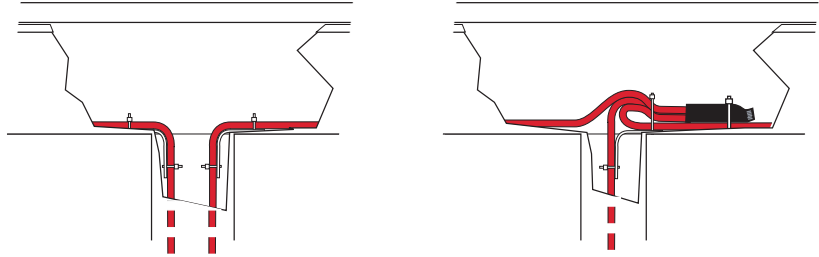
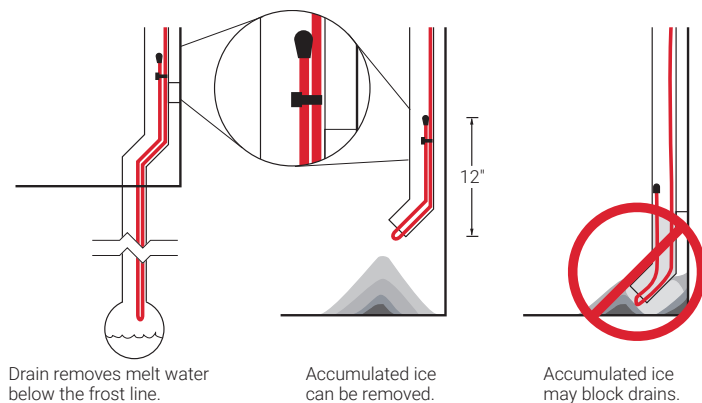

Fig. 16 Heating cable at top of downspout
Fig. 17 Heating cable at bottom of downspout
- External downspouts and scuppers must be treated carefully. A path must be provided for the valley/perimeter heating cable to the point of discharge (see Fig. 17 on page 15).
Ice may form in downspouts and prevent melt water from escaping from the roof. To maintain a continuous path for melt water to run off, run the heating cable inside the downspout to the end as shown in Fig. 16 and Fig. 17 below. Follow the appropriate attachment recommendations in "Step 6 Select attachment accessories and method" on page 21. Additional heating cable may be needed for the roof surface, gutters, and valleys.